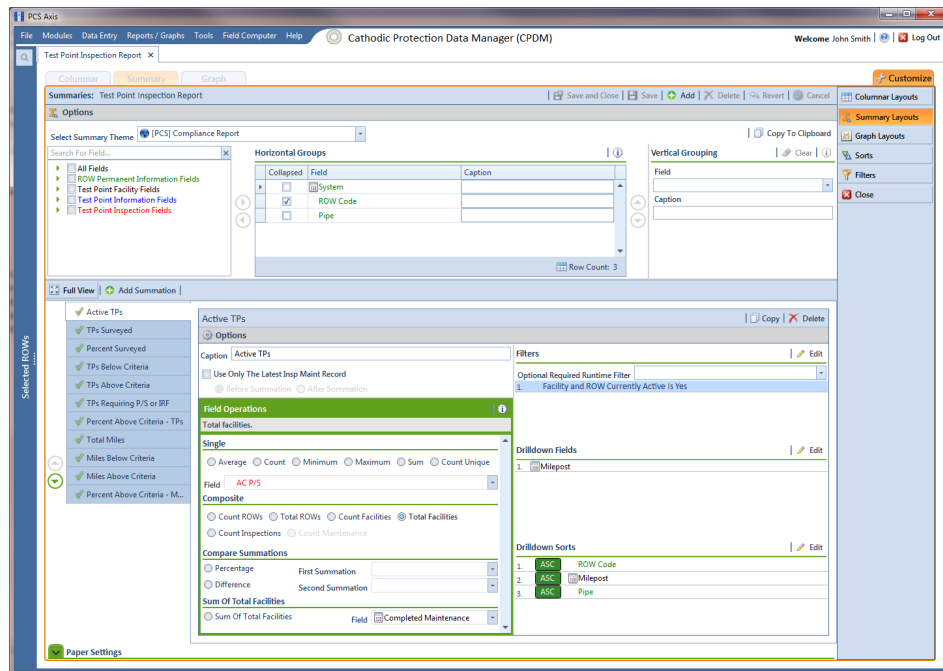

Figure 16-36. Summary Layouts
- 4 Click the **Summary Layouts** button  to open the *Summaries* page (Figure 16-36, page 754).